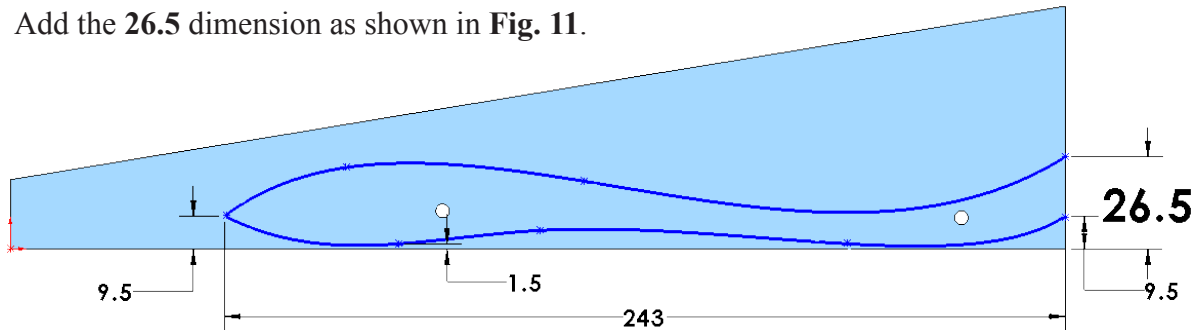

Fig. 11
Step 8. Click **Smart Dimension**  (S) on the Sketch toolbar.
Step 9. Add the **26.5** dimension as shown in **Fig. 11**.